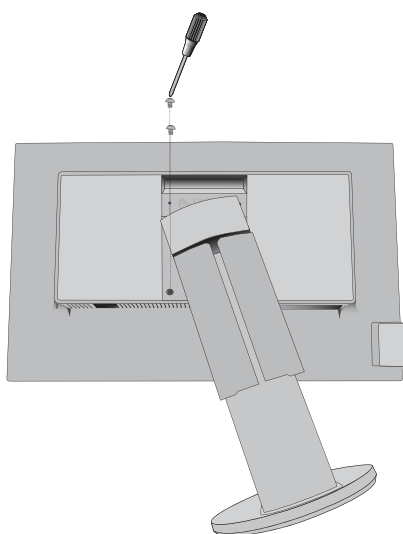

Figure S.2
4. Remove 2 bottom screws first: Move stand left and right to remove bottom 2 screws (**Figure S.2, S.3**).